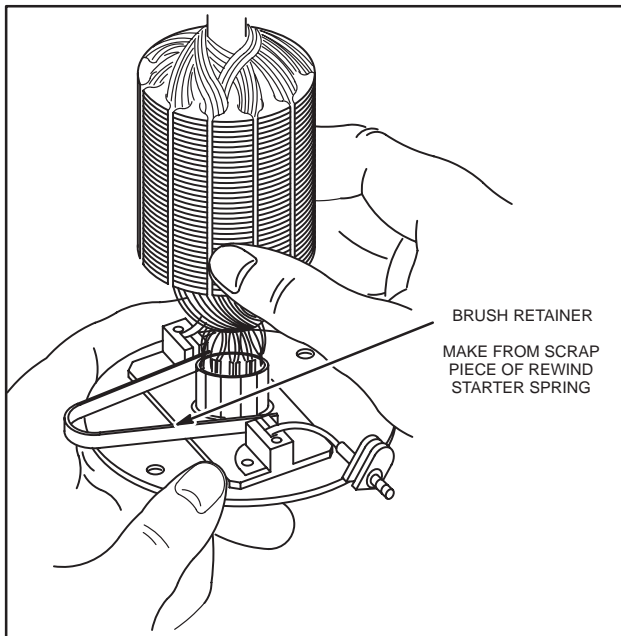

Fig. 673 – ASSEMBLING ARMATURE TO END CAP
**NOTE:** Tools such as shown in Fig's. 646, page 16, and Fig. 673, this page, should be used to hold the brushes clear of the armature commutator when assembling the armature to end cap.